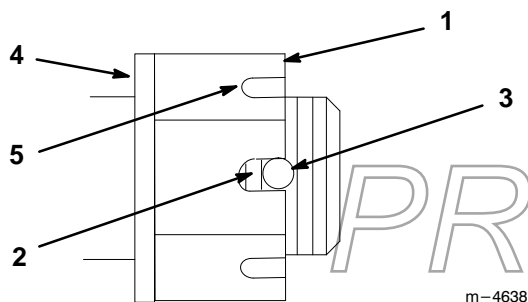

Figure 39
3. Torque slotted nut to 125 ft–lbs (169.5 N•m) (Fig. 39).
4. Check the distance from bottom of slot in nut to inside edge of hole. Two threads or less should be showing (Fig. 39).
5. If more than two threads are showing remove nut and install washer between hub and nut (Fig. 39).
6. Torque the slotted nut to 125 ft–lbs (169.5 N•m) (Fig. 39).
7. Tighten nut until the next set of slots line up with the hole in the shaft (Fig. 39).